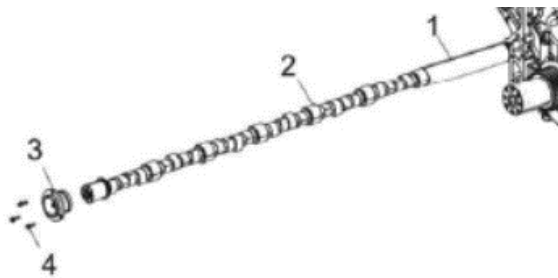

Figure 117.
- Use the camshaft installation tool (Figure 117, Item 1) if necessary.
5. Install the camshaft (Figure 117, Item 2), gradually rotating it as you insert it.
6. Apply a film of oil to the bearing bore. Fit the bearing (Figure 117, Item 3), taking care to position the lubrication groove at the top at 12 o'clock.
7. Apply a film of Loctite 242 to the fasten bolts (Figure 117, Item 4) and tighten to a torque of 29 lb-ft.